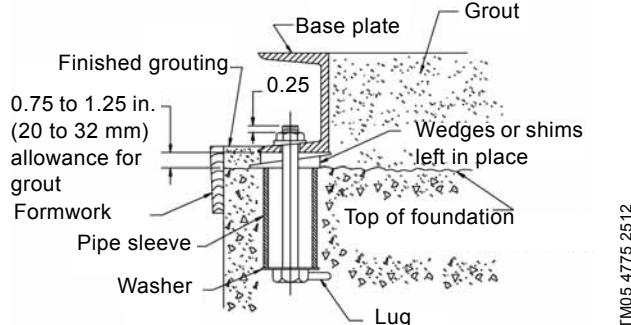
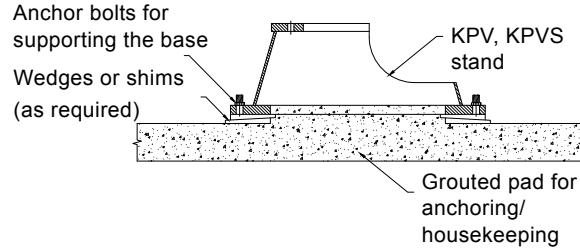

Fig. 5 KP anchor bolt installation
Fig. 6 KPV, KPVS anchor bolt installation
- Place anchor bolts in pipe sleeves for positioning allowance. See fig. 5 and fig. 6.
- Construct a formwork around the concrete foundation and pour grout inside and around the base plate. See fig. 5 for KP and fig. 6 for KPV, KPVS. The grout will compensate for uneven foundation, distribute the weight of the pump, and prevent shifting.